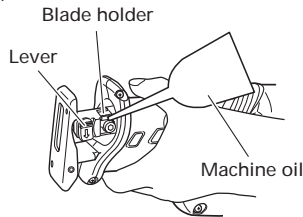

Fig. 8
- (1) After use, blow away sawdust, earth, sand, moisture, etc., with air or brush them away with a brush, etc., to ensure that the blade mount can function smoothly.
- (2) As shown in Fig. 8, carry out lubrication around the blade holder on a periodic basis by use of cutting fluid, etc.